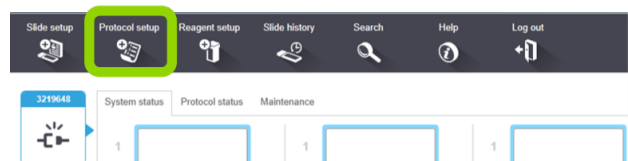

Figure 74: Protocol setup icon
1. Click the **Protocol setup** icon (see Figure 74).
NOTE: To create a new protocol with different HIER conditions, click the Protocol Setup icon (see Figure 74). Find an existing *HIER protocol, copy it, and modify the conditions as needed. Save with a unique name and abbreviated name. Check the checkbox for “Preferred” protocol.
NOTE: To create a new Proteinase K protocol, click the Protocol Setup icon (see Figure 74). Find the existing *Enzyme 1 for 15 minutes protocol, copy it, and modify the conditions as needed. Save with a unique name and abbreviated name. Check the checkbox for “Preferred” protocol.